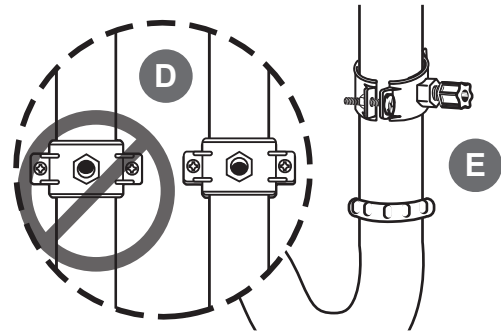

Figure 11
- Make sure the black rubber gasket is adhered to the inside of the drain clamp and place the drain clamp assembly over the drilled hole. Look through the hole and position the clamp so that the center of the clamp hole is slightly higher (about 1/16") than the center of the drilled hole, see Figure 11. Tighten the clamp securely.